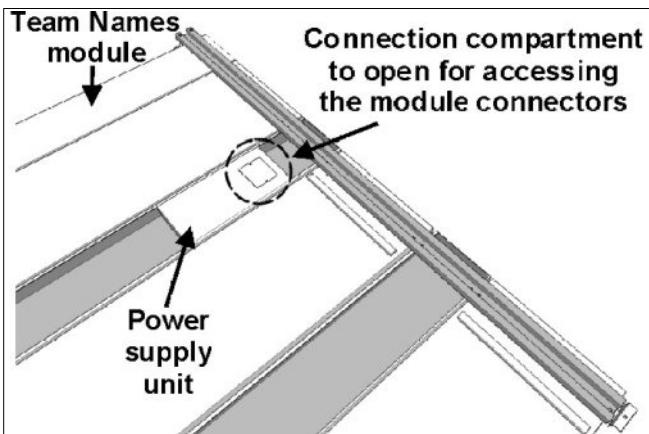
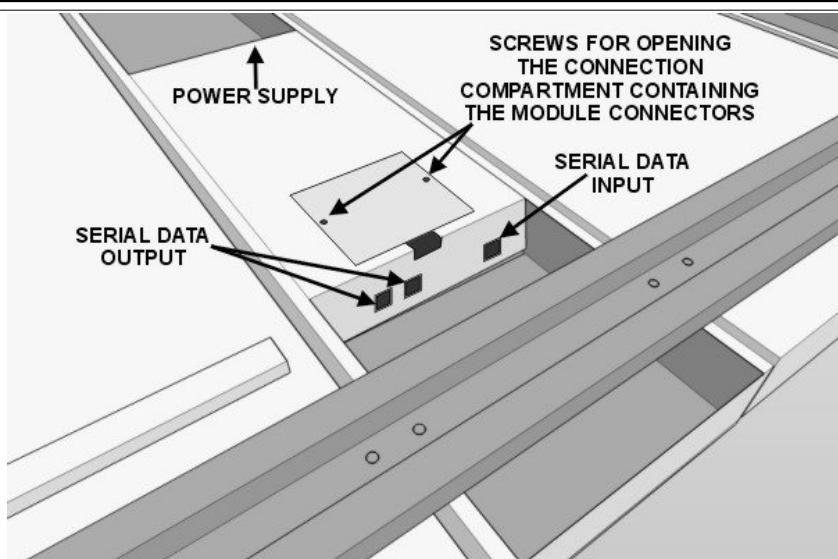

Fig. 3.2: Connection compartment
Fig. 3.5: Connections for the power cord and serial data cables
- Locate the module containing the power supply unit (see Fig. 3.2); using a Phillips screwdriver, open the connection compartment containing the module connectors (Fig. 3.5).
The following connectors are found inside the power supply unit (see Fig. 3.5):